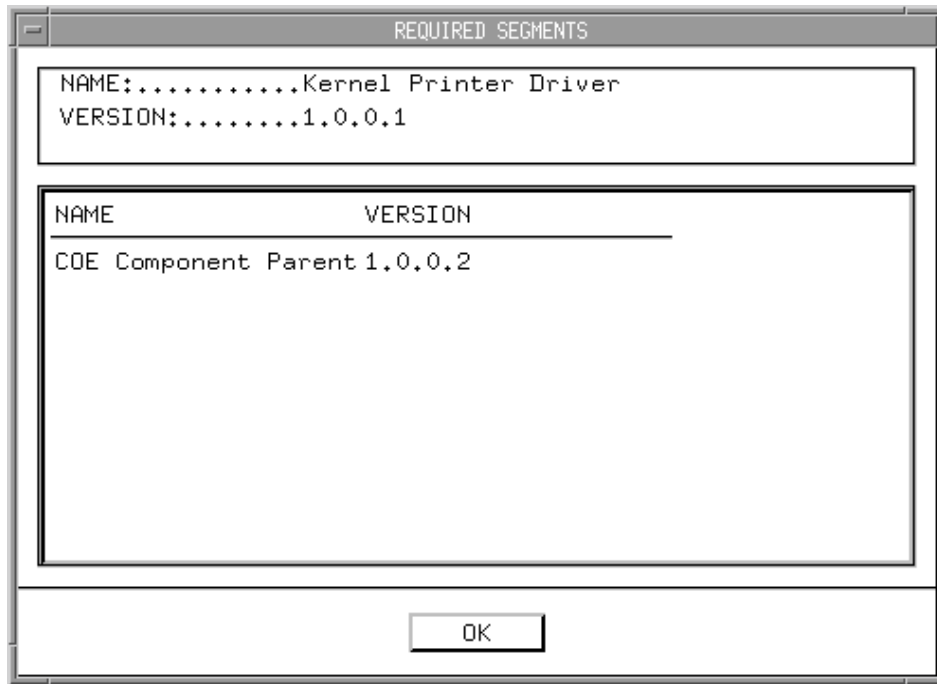

Figure 5. `REQUIRED SEGMENTS` Window
STEP 9: View segments that need to be installed. Click on the `Requires` button in the `Select Segment To Install` panel. The `REQUIRED SEGMENTS` window (Figure 5) appears listing the `COE Component Parent 1.0.0.2`, which needs to be installed before the `Kernel Printer Driver Version 1.0.0.1`.